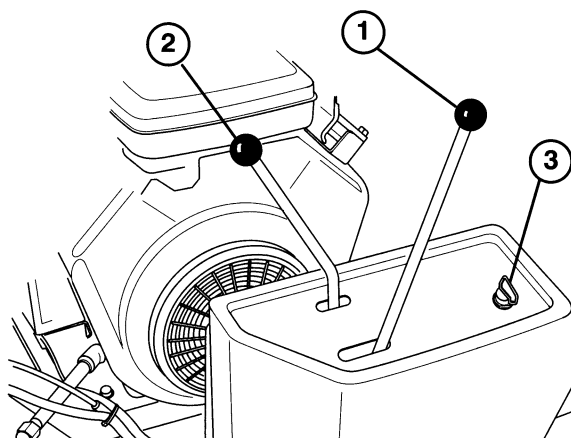
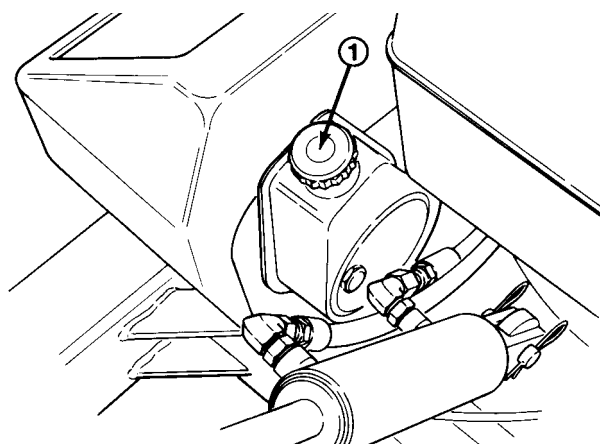

Figure 6
Figure 7
**Traction Drive Lever** (Fig. 6)—Shift to the desired gear and move the traction drive lever to the engage position to move forward or reverse. One of the hand-operated interlock levers (Fig. 7).
**Coring Head Lever** (Fig. 6)—Raises and lowers the coring head and engages and disengages the drive.
**Interlock Lever Switches (2)** (Fig. 7)—Switches permit engine operation when the coring head is lowered. They also hold the traction drive lever in the engaged position. One handle switch must be activated before engaging the traction drive or lowering the coring head when engine is running.
**Service Brake** (Fig. 7)—Used to slow the traction operation.